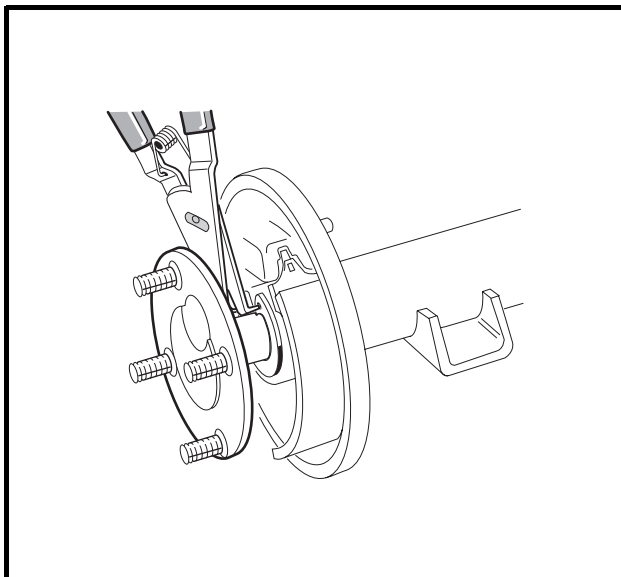
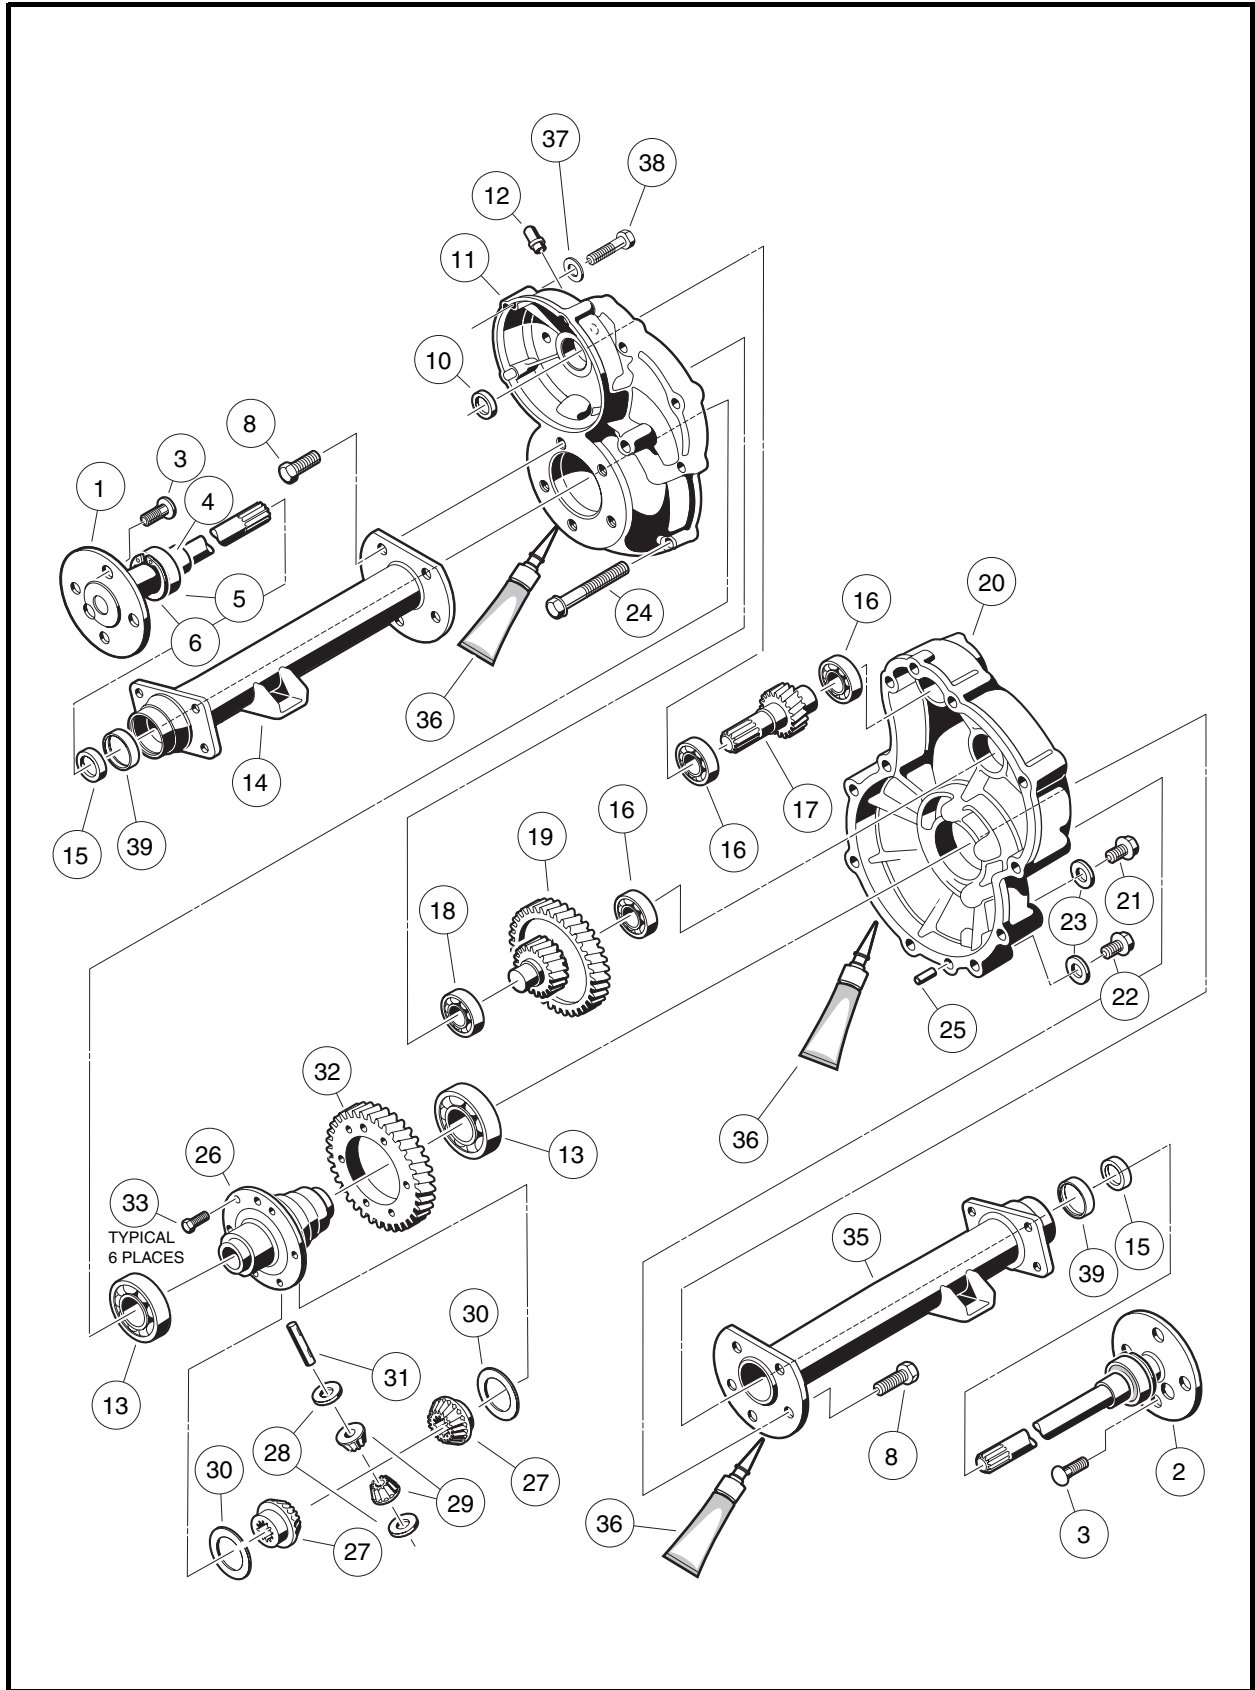
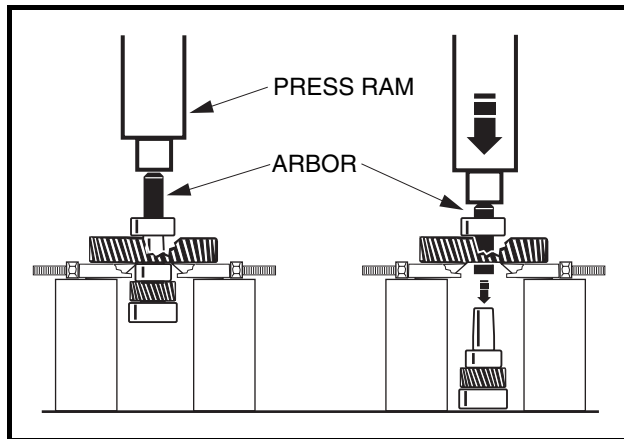
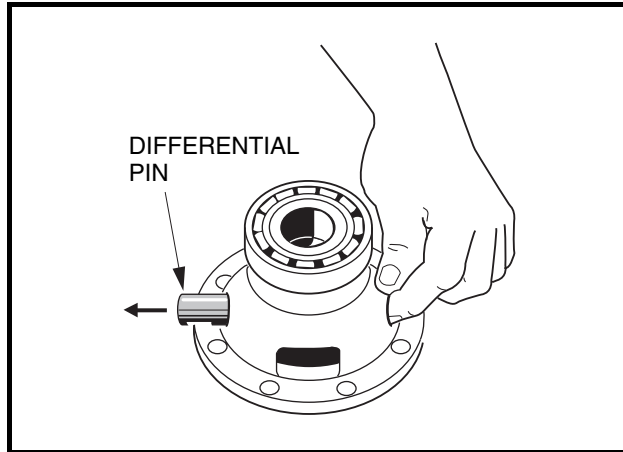

Figure 16-1 Axle Tube
Figure 16-5 Transaxle – Type G
Figure 16-13 Intermediate Gear Assembly
Figure 16-15 Differential Pin
There are two plugs located on the lower half of the transaxle housing. The upper plug (21) (as viewed when the vehicle is on a level surface) is used as a lubricant level indicator (**Figure 16-5, Page 16-3**). When the vehicle is parked on a level surface, the lubricant level should be even with the bottom of the hole. The lower plug (22) is for draining the lubricant. When draining the lubricant, the upper plug should be removed so the lubricant will drain faster. Be sure the drain plug is installed before filling. **See following NOTE.**
4. Use 90° internal snap ring pliers to remove the internal retaining ring (6) from the axle tube (**Figure 16-5, Page 16-3**). **See also Figure 16-1, Page 16-2.**
8. Inspect bearing (5) (**Figure 16-5, Page 16-3**). If the bearing in a Type G transaxle is worn or damaged, the entire axle shaft assembly (1 or 2) must be replaced.
- 1.3. Clean adapter ring seat(s) in the axle tube (14 or 35) (**Figure 16-5, Page 16-3**).
- 2.1. Insert the shaft, splined end first, through the seal and into the axle tube. Be careful not to damage the seal on the inside of the axle tube hub. Advance the shaft through to the bearing on the shaft, then rotate it to align the shaft splines with the splined bore of the differential side gear (27) (**Figure 16-5, Page 16-3**). Continue advancing the shaft until the bearing on the axle is firmly seated within the axle tube hub seat.
- 2.2. Use a pair of snap ring pliers to install the retaining ring (6) inside axle tube hub so that it seats against the axle bearing assembly and into the machined slot in the inside wall of the axle tube hub (**Figure 16-5, Page 16-3**). **See following NOTE.**
- NOTE:** *If the retaining ring (6), axle bearing (5), or sleeve (4) must be replaced, the entire axle shaft assembly (1 or 2) must be replaced (**Figure 16-5, Page 16-3**).*
Do not remove the axle bearing (5) from a Type G transaxle. If bearing is worn or damaged, the entire axle assembly (1 or 2) must be replaced (**Figure 16-5, Page 16-3**).
1. To detach axle tubes (14 and 35) from the transaxle housing, remove the bolts (8) (**Figure 16-5, Page 16-3**).
2. Remove 11 bolts (24) that hold housing together.
3. Pull the halves of the housing (11 and 20) apart. If necessary, tap lightly on the spline of the input pinion (17). **See following CAUTION.**
4. Remove input pinion gear (17) by pulling gear out while rocking intermediate gear assembly (19). Lift intermediate gear assembly and differential gear case unit out simultaneously (**Figure 16-5, Page 16-3**). **See following CAUTION.**
5. Use a bearing puller or arbor press to remove bearings (16) from the input pinion gear. If the oil seal (10) is damaged, replace it (**Figure 16-5, Page 16-3**). **See also Figure 16-13, Page 16-8. See following CAUTION.**
6. To disassemble the intermediate gear assembly, press off together the bearing (16) and the gear (19) (**Figure 16-5, Page 16-3**). **See also Figure 16-13, Page 16-8.**
7. Press the bearing (18) off the intermediate gear assembly (**Figure 16-5, Page 16-3**).
- 8.1. Remove the hex bolts (33) and the ring gear (32) from the differential case (**Figure 16-5, Page 16-3**).
- 8.4. Remove the differential pin (31) by pushing pin through differential gear case from one side (**Figure 16-5, Page 16-3**). See also **Figure 16-15, Page 16-9**.
8.7. Inspect the bearings (13) of the differential case (26) and replace them if they are damaged (Figure 16-5, Page 16-3). To remove them, press them off. **See following CAUTION.**
1. If bearings (13) were removed during disassembly, install new bearings using an arbor press (Figure 16-5, Page 16-3).
- 2.1. Install the pin (31) (Figure 16-5, Page 16-3). Apply a small amount of oil to all thrust plates and to both ends of the pin.